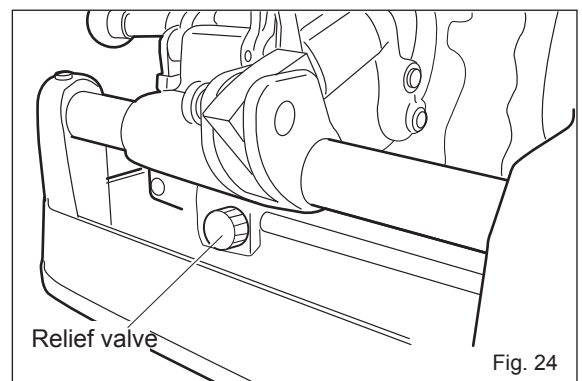

Fig. 24
- Turn the relief valve to adjust to the most suitable amount of oil needed. (Fig. 24)